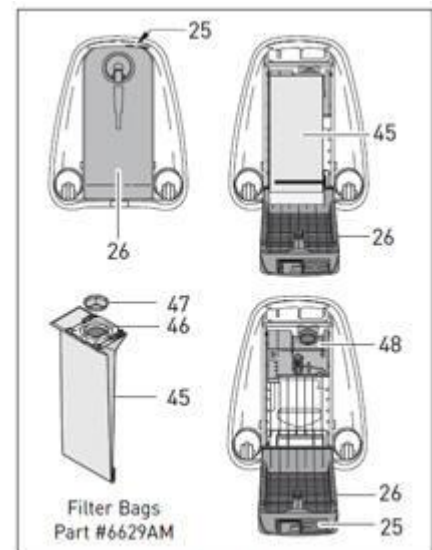

Figure 16
After 10 to 20 bags have been used, change the micro-hygiene filter (52). To remove the micro-hygiene filter, set the canister upright (as shown in figure 16). Press the cover release catch (25) and lower the filter bag cover (26). Remove the filter bag, then remove the cover by sliding it up and out of the grooves (53). Pull the old filter out (52) and slide the new filter into the same position. Replace the filter bag, then reinsert the cover by fitting the tabs into the grooves (53) on both sides and sliding it in and down. Push the cover closed, making sure it snaps shut completely.
Remove hose (10) cover and remove the filter bag (figure 16, page 9). Clean out entrance to bag (58).